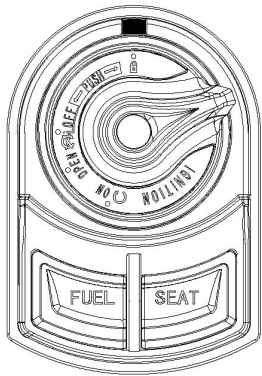

Fig. 1
- 1、 Lock vehicle / Lock handlebars (Fig. 1)
Fig 1: Turn off the motorcycle; the vehicle is now in the off state. Power off: Turn the key counterclockwise to the position parallel to the vehicle's longitudinal centerline to cut off the power. At this point, the key can be removed.